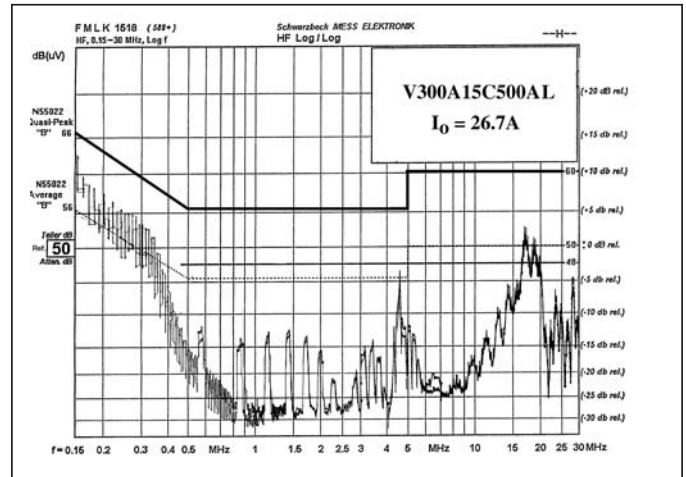
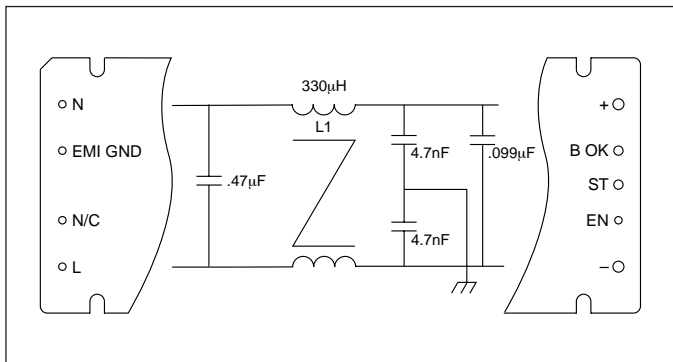

Figure 6—Typical Conducted Emissions
Figure 12—Internal filter
**Filter.** (see Fig. 12) An integral input filter consists of a common mode choke and Y rated capacitors (line-ground) plus two X rated capacitors (line-line). This filter configuration provides common mode and differential mode insertion loss in the frequency range between 100kHz and 30MHz as illustrated in Figure 6.